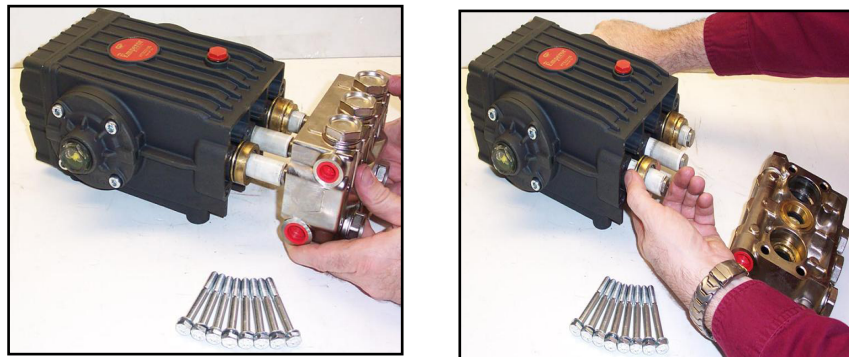

Figure 8. Seal Assemblies May Come Off with Manifold
12. The seal assemblies may come off with the manifold (see Figure 8)